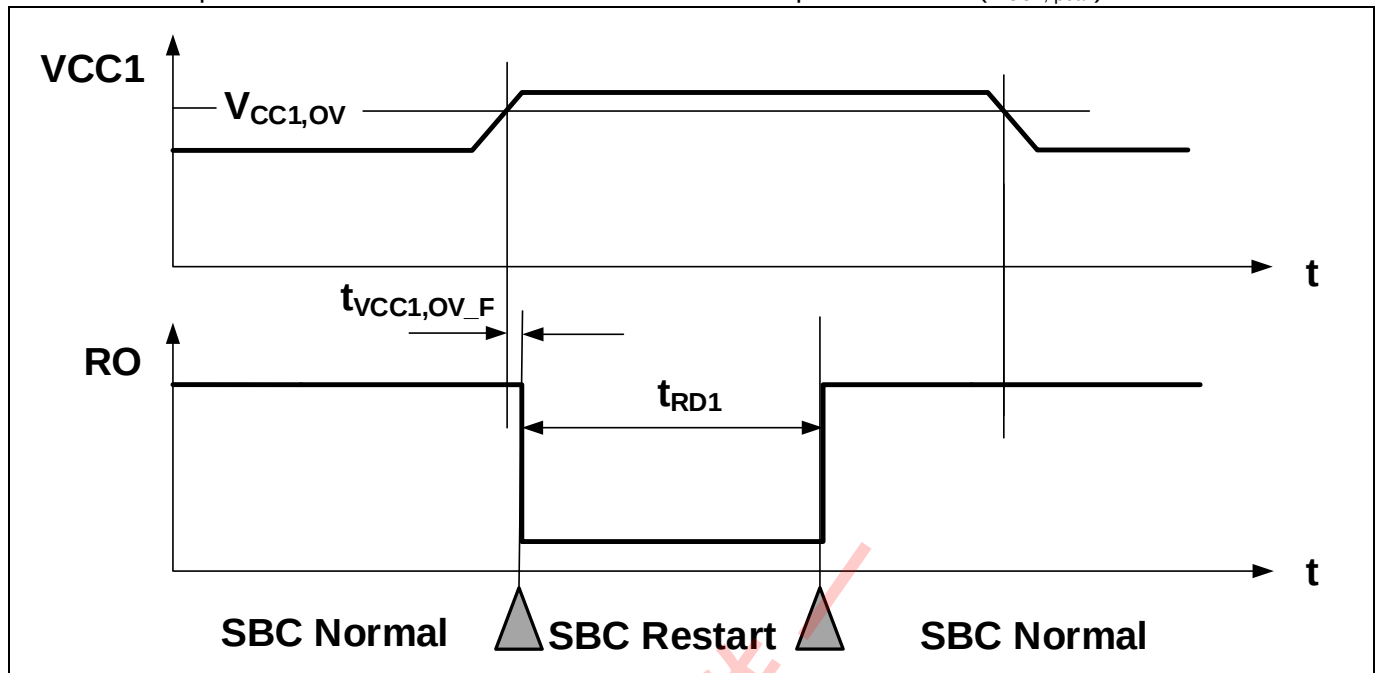

Figure 58 VCC1 Overvoltage Timing Diagram
- The FOx outputs are activated, and after the reset delay time (t_{RD1}), the SBC Restart Mode is automatically left, resuming Normal Mode operation even if the VCC1 overvoltage condition persists (refer to **Figure 58**). The **VCC1_OV_RST** bit is cleared automatically after this sequence.